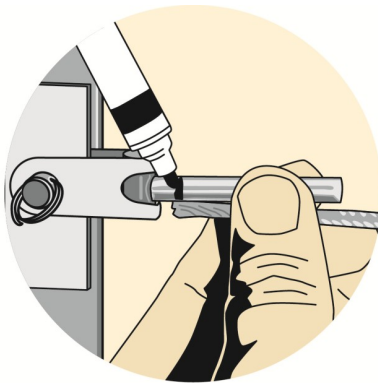

Fig 13
- a) Insert a piece of cable into the installed Classic Jaw Fitting and mark on the fitting that indicates how far the cable penetrates (Fig. 13).